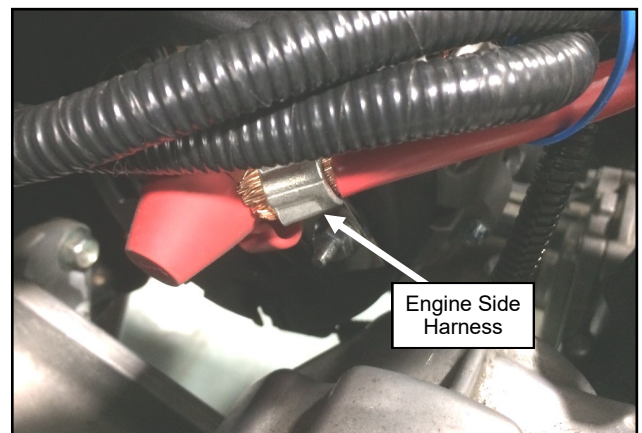

Fig. 4.6 (Install A/C Power Supply Harnesses, DXT)
- 4.6** Install Fuse Mounting Bar and the vehicle's power wire (disconnected on step 2.17) to the back of the alternator power stud as shown in fig 4.6.